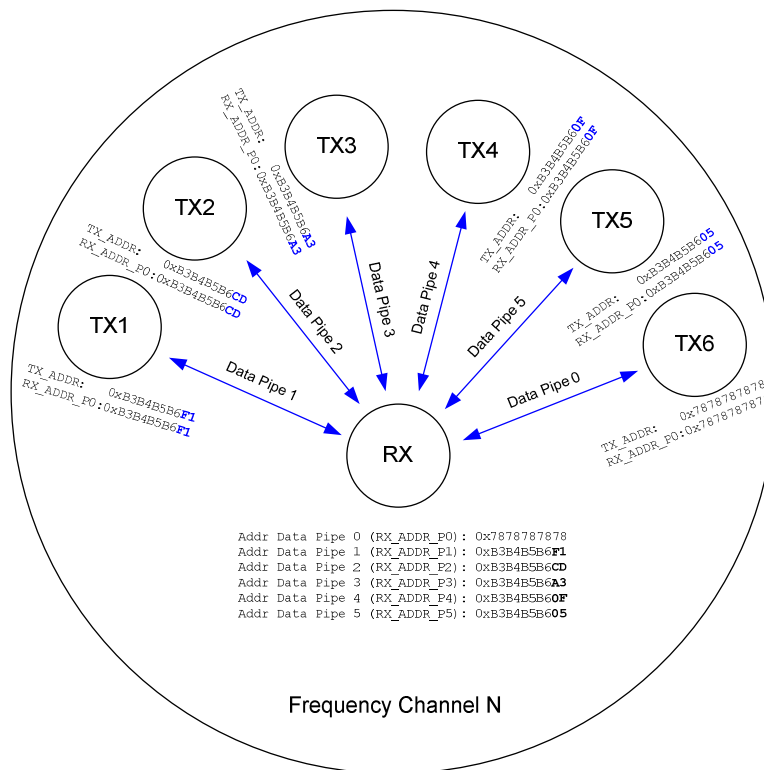

Figure 5: Example on how the acknowledgement addressing is done
nRF24L01 will use the data pipe address when acknowledging a received packet. This means that nRF24L01 will transmit ACK with the same address as it receives payload at. In the PTX device data pipe 0 is used to receive the acknowledgement, and therefore the receive address for data pipe 0 has to be equal to the transmit address to be able to receive the acknowledgement. See Figure 5 for addressing example.
2. When the application MCU has data to send, the address for receiving node (TX\_ADDR) and payload data (TX\_PLD) has to be clocked into nRF24L01 via the SPI interface. The width of TX-payload is counted from number of bytes written into the TX FIFO from the MCU. TX\_PLD must be written continuously while holding CSN low. TX\_ADDR does not have to be rewritten if it is unchanged from last transmit. If the PTX device shall receive acknowledgement, data pipe 0 has to be configured to receive the acknowledgement. The receive address for data pipe 0 (RX\_ADDR\_P0) has to be equal to the transmit address (TX\_ADDR) in the PTX device. For the example in Figure 5 the following address settings have to be performed for the TX5 device and the RX device: